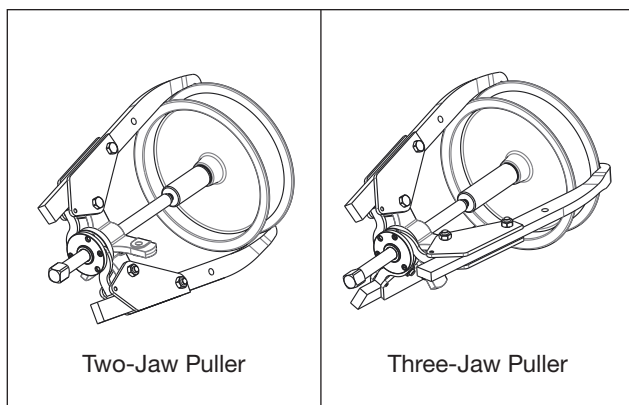

Figure 7, Pulley Removal (typical)
- Install the puller on the pulley or other part to be removed. See Figure 7 for examples.
- During operation, continuously monitor the puller for indications of deformation. If the adjusting rod bends or any jaw deformation is noticed, stop tightening the adjusting rod immediately. See Figure 7.